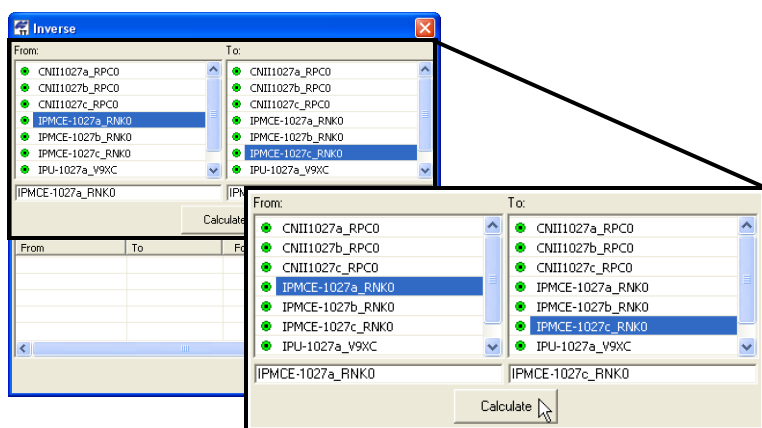

Figure 9-65. Select Points to Determine Inverse
2. Select the *From* point(s) in the left column and the *To* point(s) in the right column (Figure 9-65 on page 9-42).
3. Click **Calculate** (Figure 9-65 on page 9-42).